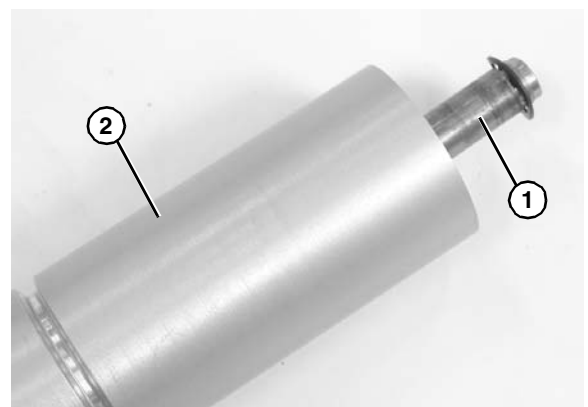

Figure 84
6. Slide the shaft assembly (**Figure 84, item 1**) out of the pulley (**Figure 84, item 2**).